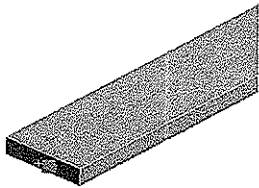

Figure 9-12 The violet color face of the model displaying the Fixed support
- 5. Choose the **Apply** button in the **Geometry** selection box to confirm the selection of the face for Fixed support; the color of the face turns violet and a flag is attached to the face, as shown in Figure 9-12.